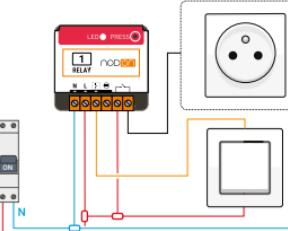

Figure 2
- Wire the Multifunction Relay Switch, in parallel to the push-button following the diagram figure 2.